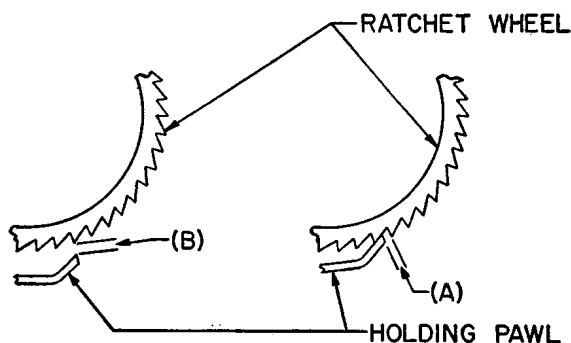

Fig. 8 – Ratchet Wheel and Holding Pawl
4.05 ENGAGEMENT OF HOLDING PAWL AND RATCHET WHEEL, FIG. 8 (A)
4.06 CLEARANCE BETWEEN HOLDING PAWL AND RATCHET WHEEL, FIG. 8 (B)